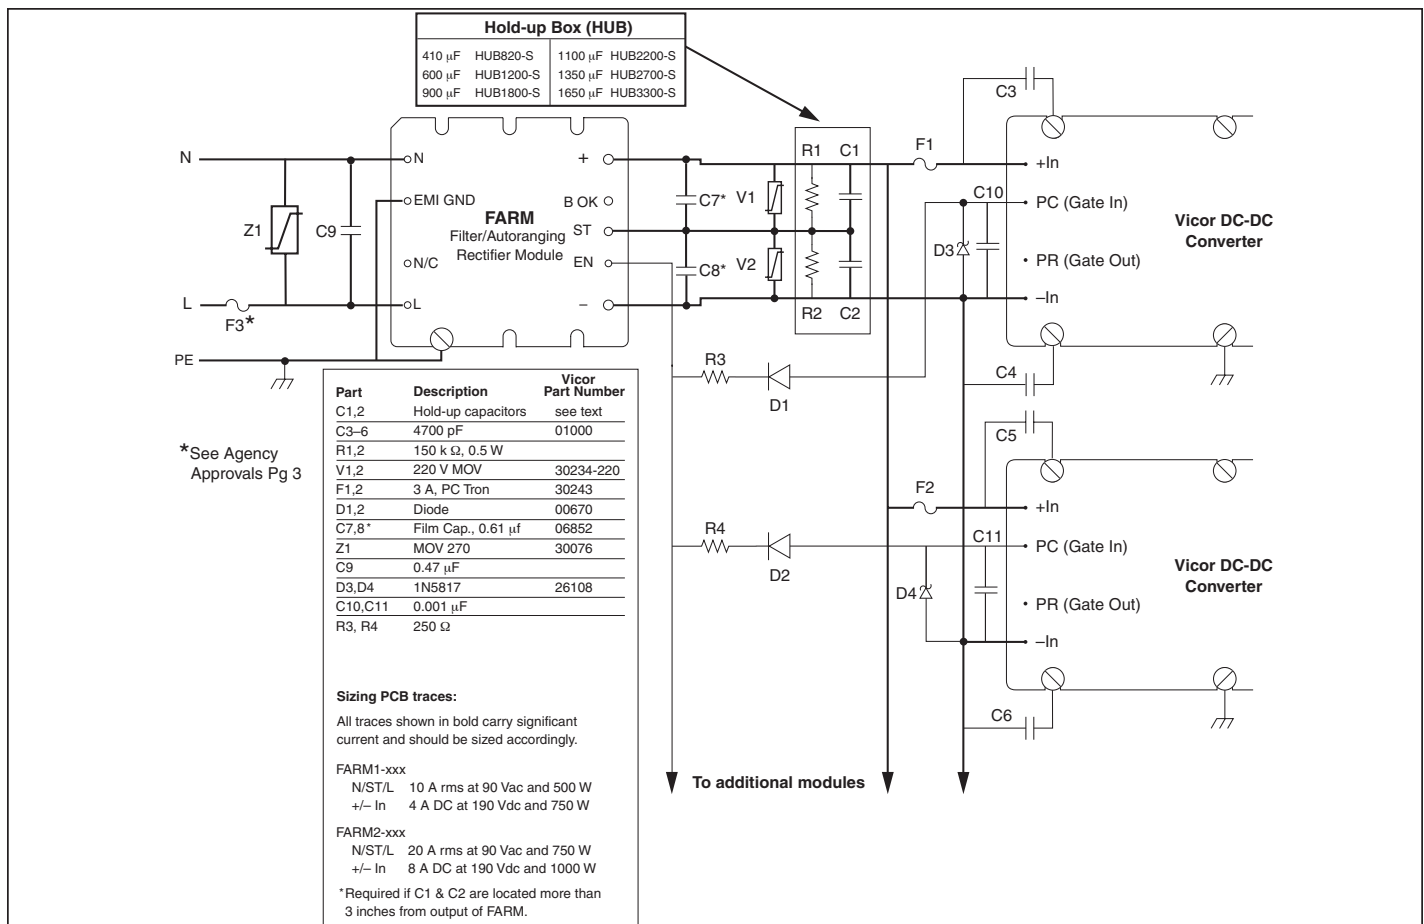

Figure 9 — Offline Power Supply Configuration
Strap (ST) Pin. In addition to input and output power pin connections, it is necessary to connect the Strap pin to the center junction of the series hold-up capacitors (C1, C2, see Fig. 9) for proper (autoranging) operation. Metal oxide varistors, V1 and V2 provide capacitor protection. The bleeder resistors (R1, R2, see Fig. 9) discharge the hold-up capacitors when power is switched off.
It should be noted that the series combination ($C1$, $C2$, see Fig. 9) requires each capacitor to be twice the calculated value, but the required voltage rating of each capacitor is reduced to 200 V.